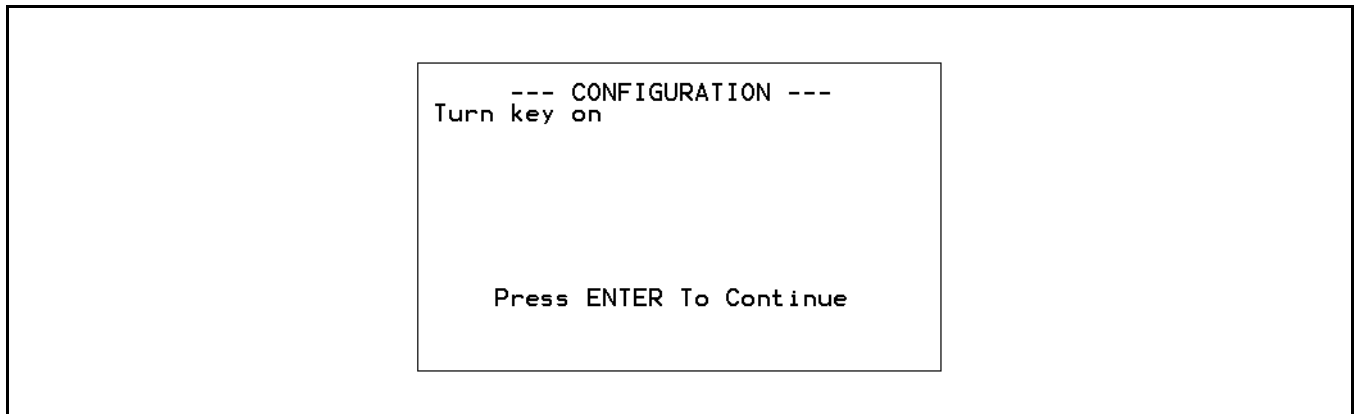

Figure 254 Key ON Screen
4. Switch the ignition ON (Figure 254). The speed control installation is now complete.